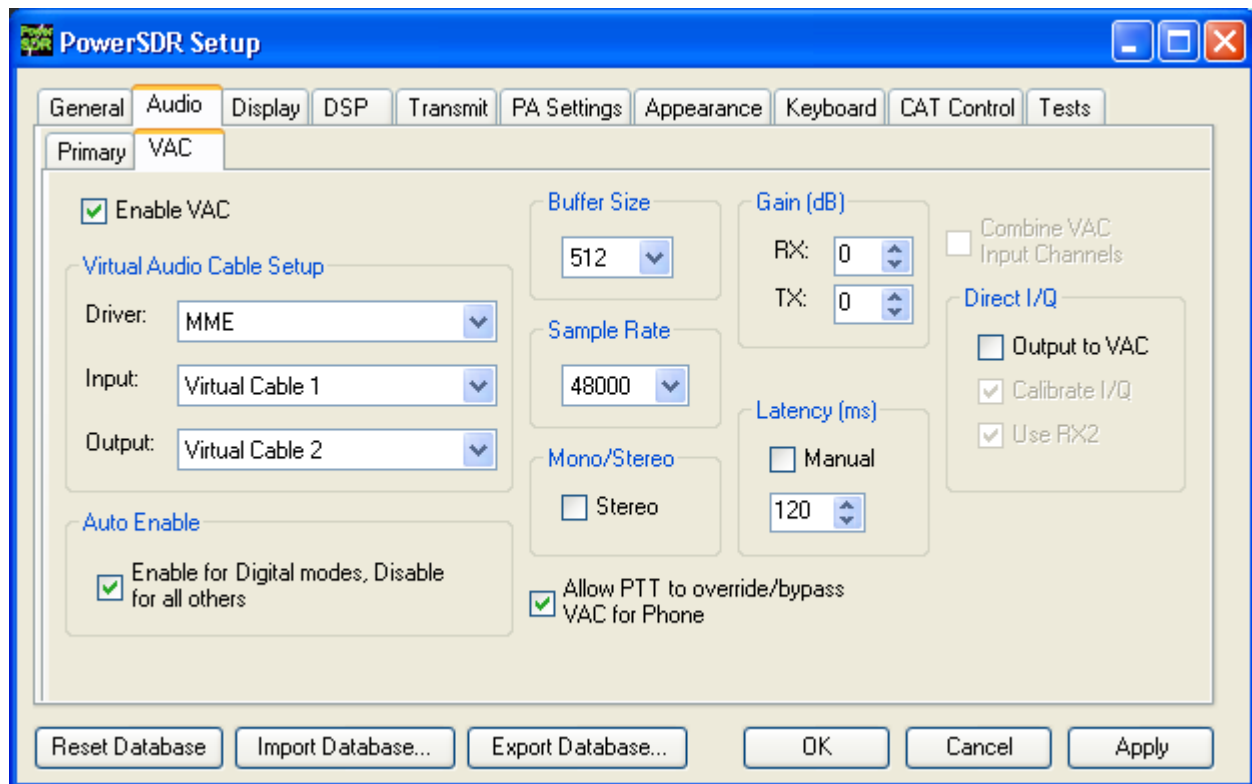

Figure 34: Setup Form - Audio Tab ,VAC Sub-Tab
2. In PowerSDR open the **Setup** Form, **Audio** tab and then the **VAC** sub-tab (see Figure 34 below). Check **Enable VAC**, Select *Virtual Cable 1* as the **Input** and *Virtual Cable 2* as the **Output**. If your digital mode software requires a stereo connection, check **Stereo**. To automatically enable VAC for **DIGU**, **DIGL** and **DRM (6)** modes, check **Auto Enable**. When operating these modes, the Front Console also shows several controls relating to **VAC (8)**, as shown in Figure 33 above).